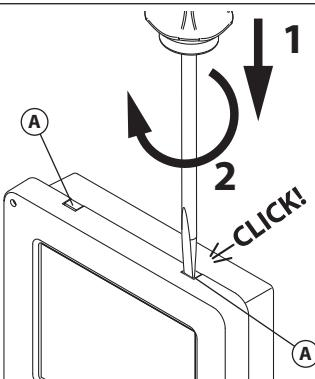

Fig. 3
1. In order to install the videophone, it is necessary to remove the cover, which contains all the electronics, from the base: insert a 5.5mm flat screw driver into the clip (A) then rotate clockwise until you listen a "CLICK!". Repeat the same operation with the other clip as shown in **Fig. 3**.